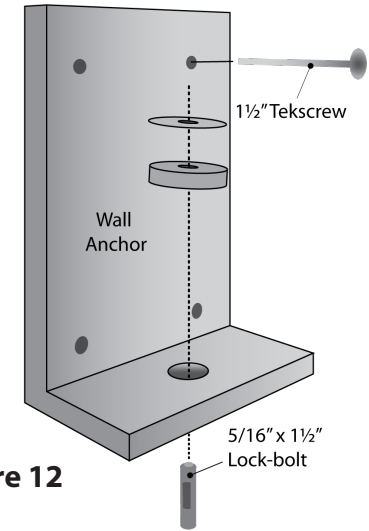

Figure 12
G. For a Walk-In requiring anchors on the outside of the walls, begin by centering anchors WA-3 to vertical panel joints and WA-4 to corners. See Figure 12.